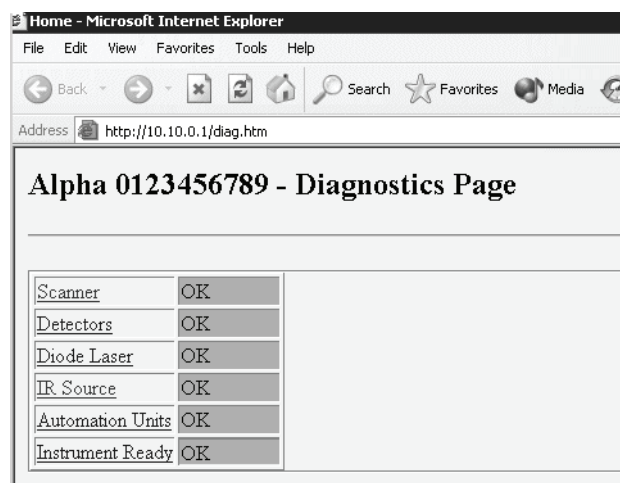

Figure 10.4: Firmware diagnostics page for the ALPHA spectrometer
- *Now, the Internet Explorer should display the firmware diagnostics page for the ALPHA spectrometer (figure 10.4). If the Internet Explorer shows a blank page, this indicates that the PC cannot access the spectrometer. A wrong spectrometer IP address may be the cause of the problem.*